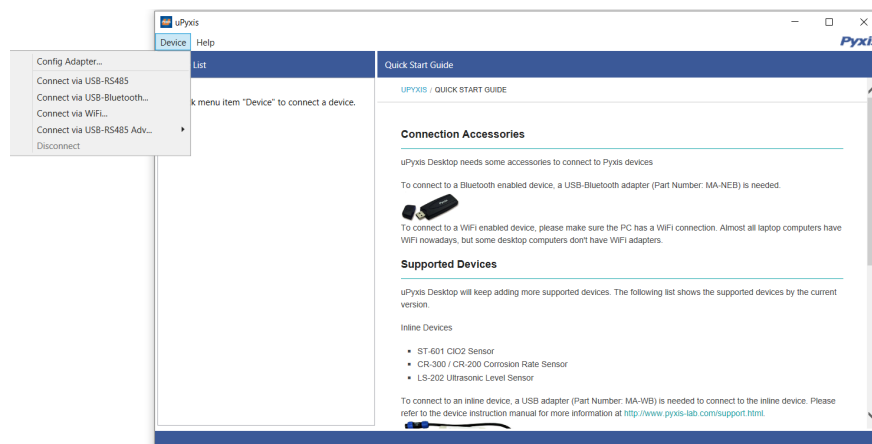

Figure 12.
3. On uPyxis® Desktop App, click Device→ **Connect via USB-Bluetooth** (Figure 12).
4. If the connection is successful, the ST-773 and its Serial Number (SN) will be displayed in the left pane of the uPyxis® window.